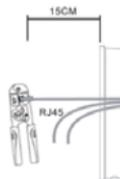

Figure 3-8
B. Pass all the wires through the silicone plug in the middle of the bottom case. All lines should be reserved for 15~20CM length, as shown in Figure 3-8.
A. Pass all the wires through the silicone plug in the middle of the bottom case. All lines should be reserved for 15~20CM length, as shown in Figure 3-8.